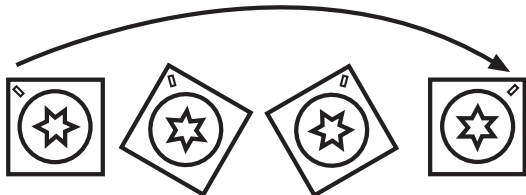

FIGURE 16
- 2) Remove the upper cover as shown in Fig.16.